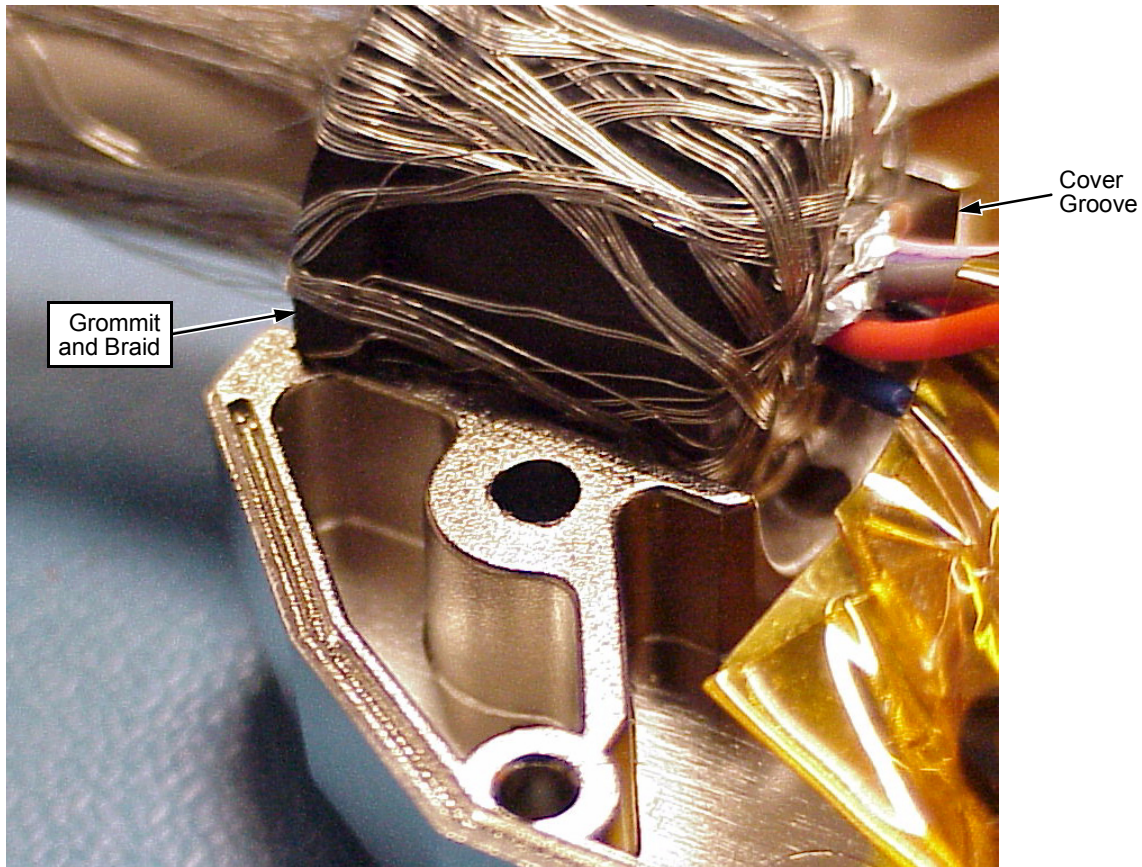

Figure 13. Positioning the Grommet and Braid
8. Position the grommet and braid in the cover groove as shown in Figure 13.